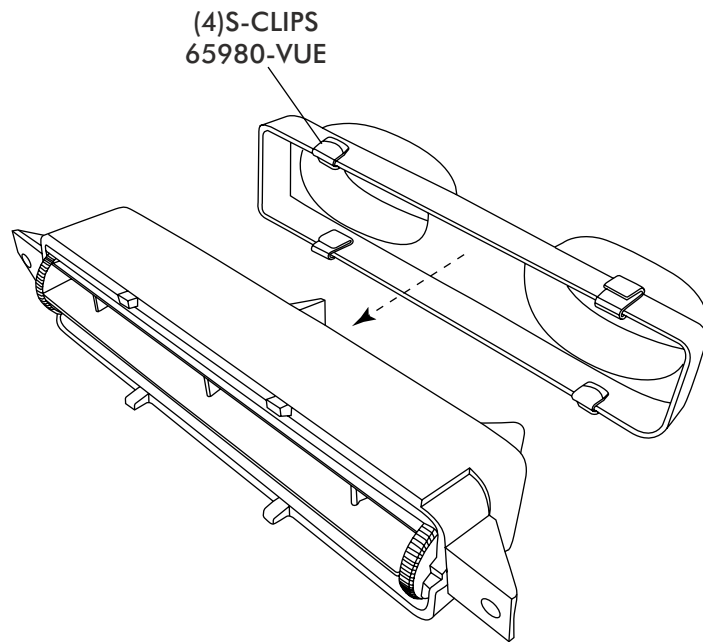

FIGURE 13
- INSTALL (4) S-CLIPS ON HOSE ADAPTER SEE FIGURE 13.
- INSTALL CENTER LOUVER HOSE ADAPTER OUTSIDE OEM CENTER LOUVER ASSEMBLY AS SHOWN IN FIGURE 13 BELOW.